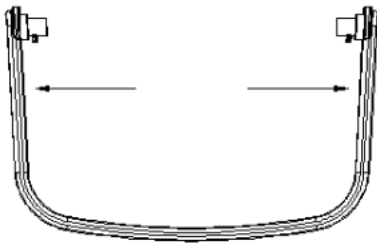

Fig.1
1) Grasp both sides of the handle shown in arrows with hands and pull them outwards (see Fig.1).